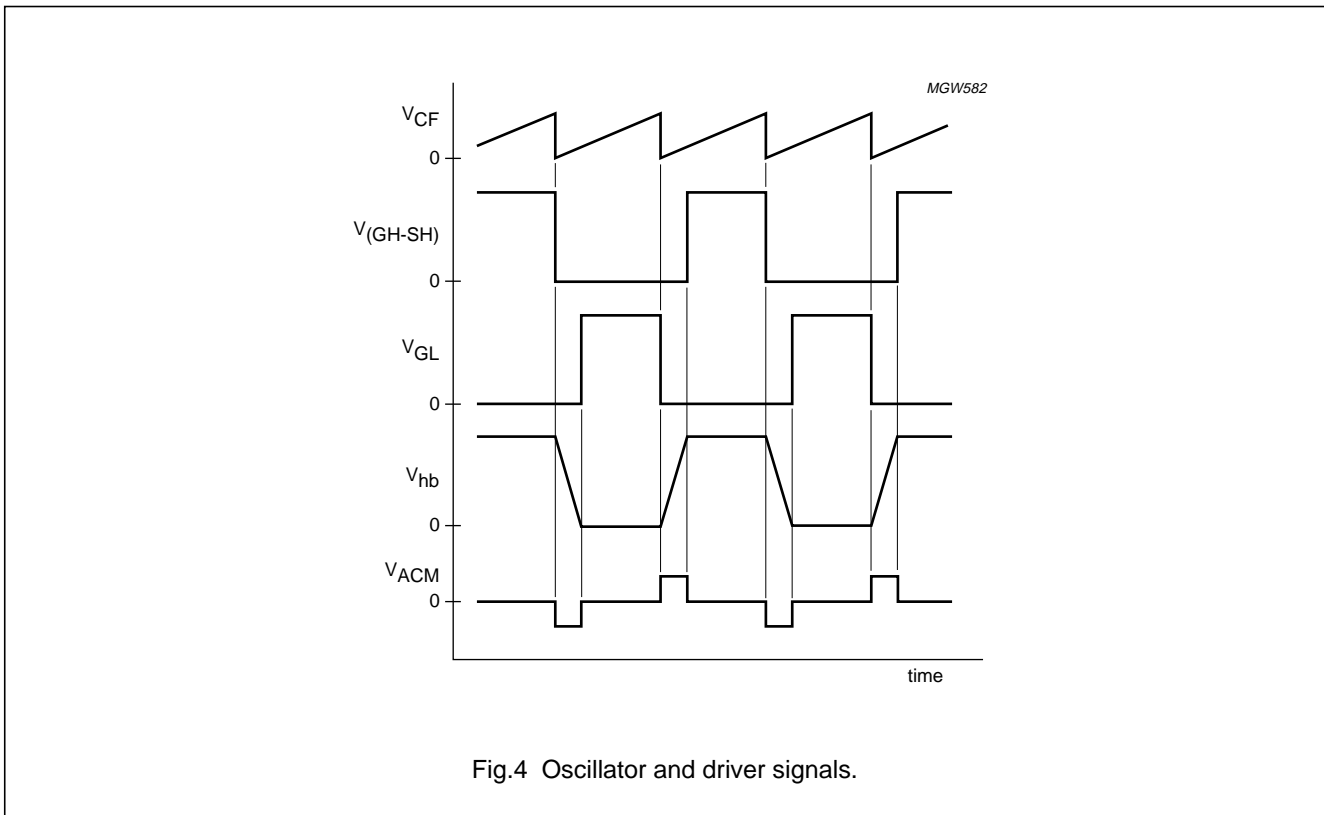

Fig.4 Oscillator and driver signals.
The internal oscillator is a Voltage-Controlled Oscillator circuit (VCO) which generates a sawtooth waveform between the  $CF_{high}$  level and 0 V. The frequency of the sawtooth is determined by capacitor  $C_{CF}$ , resistor  $R_{IREF}$ , and the voltage at pin CSW. The minimum and maximum switching frequencies are determined by  $R_{IREF}$  and  $C_{CF}$ ; their ratio is internally fixed. The sawtooth frequency is twice the half-bridge frequency. The UBA2014 brings the transistors TR1 and TR2 into conduction alternately with a duty cycle of approximately 50%. An overview of the oscillator signal and driver signals is illustrated in Fig.4. The oscillator starts oscillating at  $f_{max}$ . During the first switching cycle the Low-Side (LS) transistor is switched on. The first conducting time is made extra long to enable the bootstrap capacitor to charge.
The non-overlap time is realized with an adaptive non-overlap circuit (ANT). By using an adaptive non-overlap circuit, the application can determine the duration of the non-overlap time and make it optimum for each frequency (see Fig.4). The non-overlap time is determined by the slope of the half-bridge voltage, and is detected by the signal across resistor R16 which is connected directly to pin ACM. The minimum non-overlap time is internally fixed. The maximum non-overlap time is internally fixed at approximately 25% of the bridge period time. An internal filter of 30 ns is included at the ACM pin to increase the noise immunity.